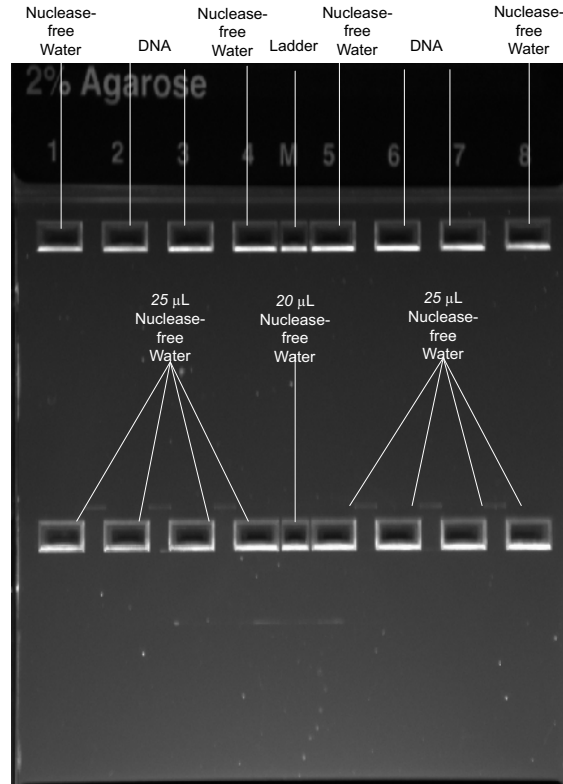

Figure 23 Where to load DNA, ladder, and Nuclease-free Water in a SOLiD™ Library Size Selection gel to size-select the DNA.
- a. Load 20 µL of the pooled library DNA into each well of the *top row* of wells. If the sample volume is < 20 µL, add Nuclease-free Water to the well for a total volume of 20 µL. Skip the center well (smaller well in the top center of the gel for the ladder); and skip a single well to the right and left of the center top well. Skip the two outermost wells (to avoid edge effects). Do not load more than 1 µg of DNA per lane (see Figure 23 on page 143).
- b. Load 10 µL of 50-bp ladder at 0.1 µg/µL to the center top well. Add 7 µL of water to fill the well (see Figure 23 on page 143).
- d. Fill each of the collection wells in the *middle* of the gel with 25 µL of Nuclease-free Water. Add 20 µL of Nuclease-free Water to the middle center well (see Figure 23 on page 143).